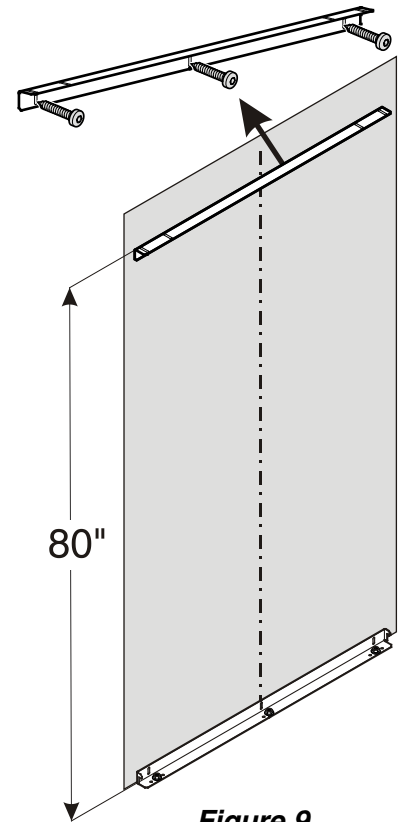

Figure 9
1. Mount the anti-tipping bracket provided on the wall using 6 x 60 screws (**Figure 9**).